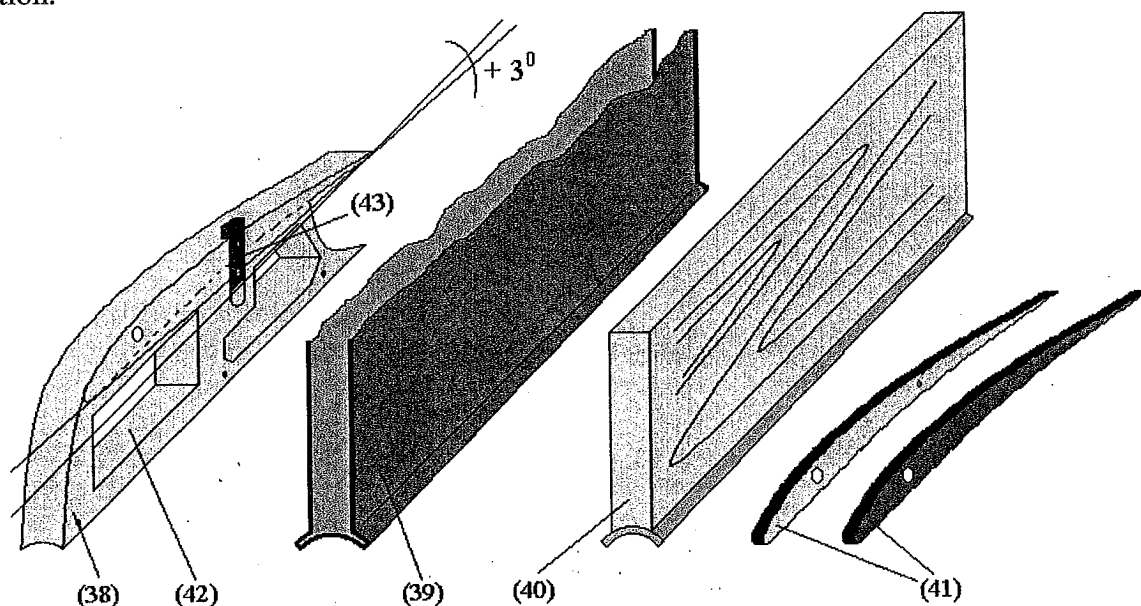

Figure 16. Canopy Component Parts
- a) **Canopy** (*figure 16*) is composed of a central part made of linden tree wood (38) having got a 15 mm thickness, an external coat made of glass fiber (39), vacuum polymerized onto the wooden support (40) having got a taper sole /base made of glass fiber. In order to get the same taper shape, the base shall be got onto a finite fuselage (central part) section.